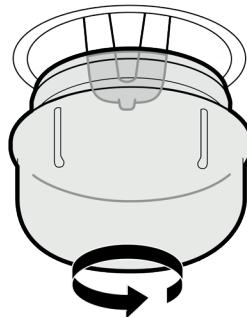

Fig.11
2. Unscrew the glass cover in the anti-clockwise direction according to Fig. 11 and replace the bulb with a bulb of the same type and parameters.